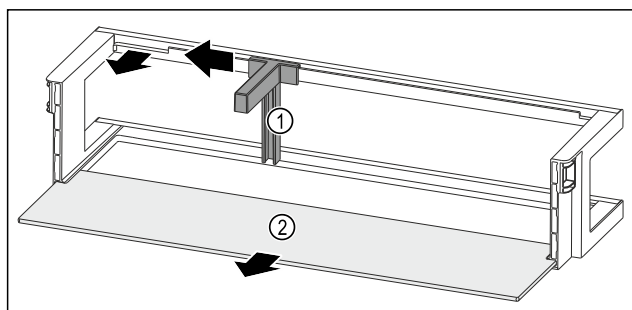

Fig. 252 Door rack with bottle holder and shelf
- Slide the bottle holder Fig. 252 (1) to the side as far as the recess.
- Remove the bottle holder Fig. 252 (1).
- Remove the shelf Fig. 252 (2).